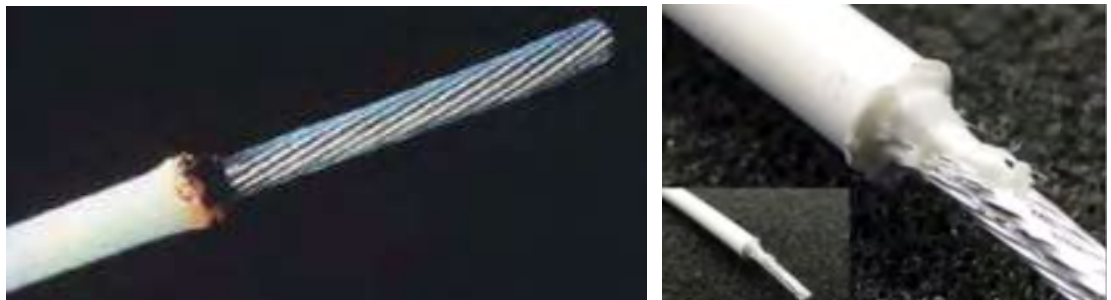

Figure 62
- (5) If thermal stripper was used, ensure the jacket is not burned or melted into the wire strands as shown in Figure 62.